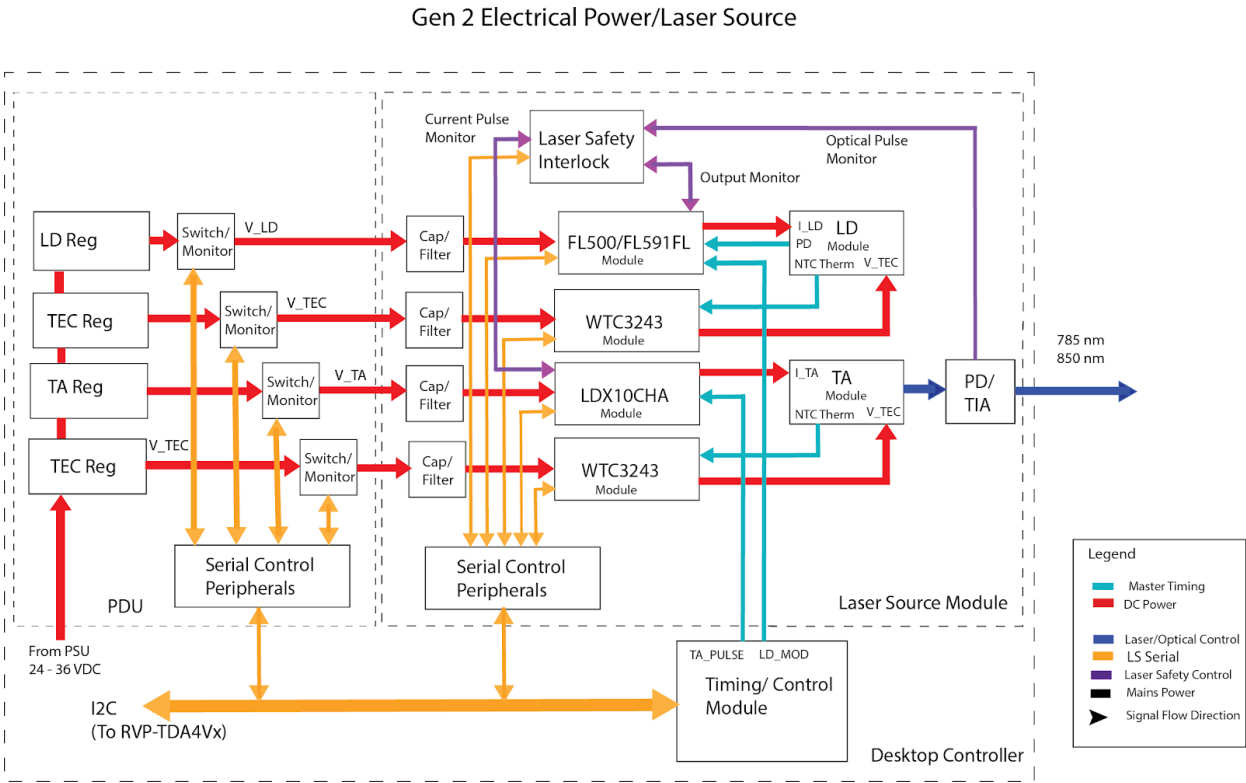

Figure 5.2 Laser Driver Subsystem
5.2. **Laser Source Module Subsystem Detail** – Diode Laser and Tapered Amplifier devices are both driven by low noise, voltage controlled current sources. Input power to these devices is supplied by discrete, individually regulated supplies from the power distribution unit. In addition to device drivers, this subsystem also provides TEC drivers for each semiconductor laser to ensure that the device operates at a constant, well defined temperature. Figure 5.2 illustrates the device driver arrangement and relationship to the power distribution unit.